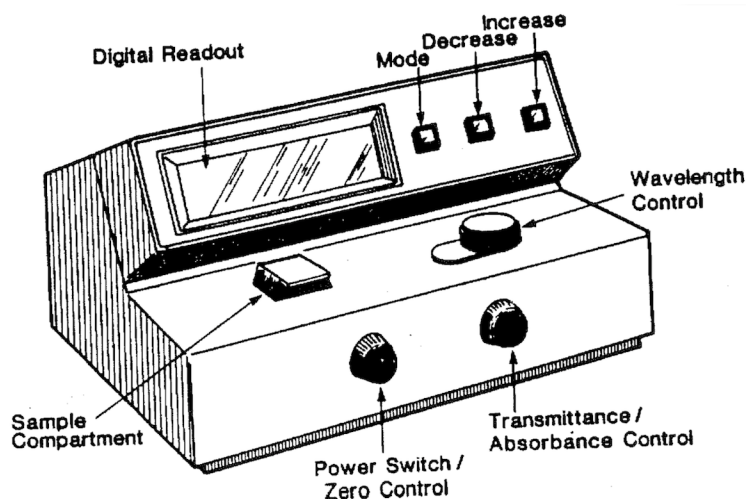

Figure 2: The spectrophotometer
**Figure 2:** The second figure will illustrate how population growth changed with population density. The caption should include your predictions for the level of harvesting that would maximize overall yield. (3 points)
**Figure 3:** The last figure will show the actual yields in the two harvesting treatments. It should represent the average and standard error from the class data. The caption should include your conclusion(s) based on these data (and can refer to figure 2 if you need). (3 points)